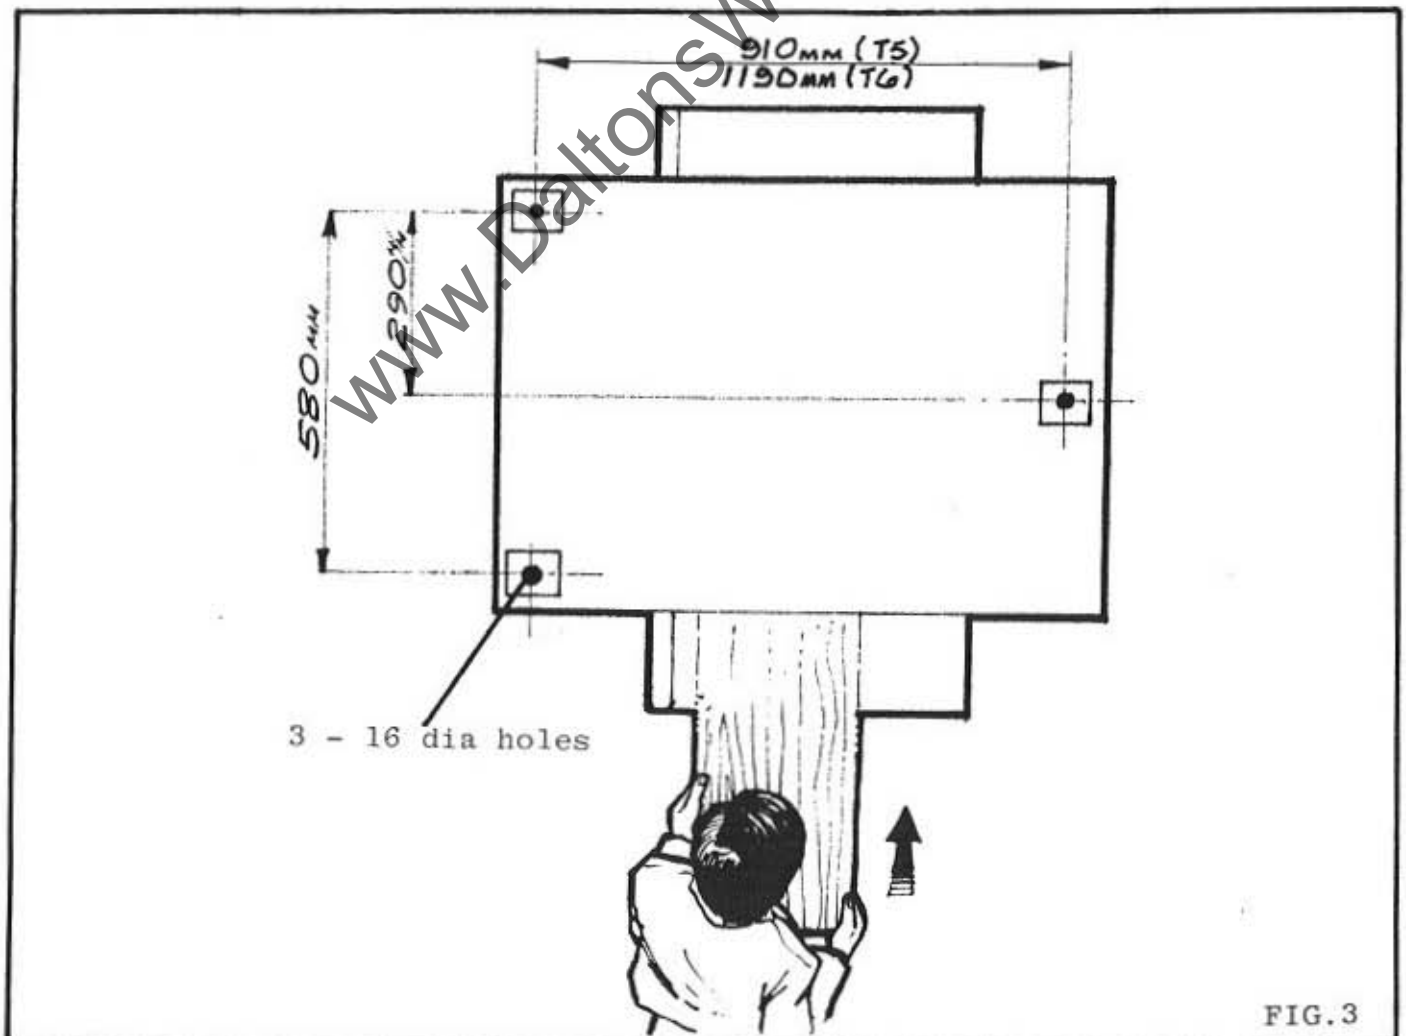

FIG.3
1. Mark out floor and drill to suit 3 foundation bolts. These bolts can be supplied at an additional extra charge. (see FIG.3)